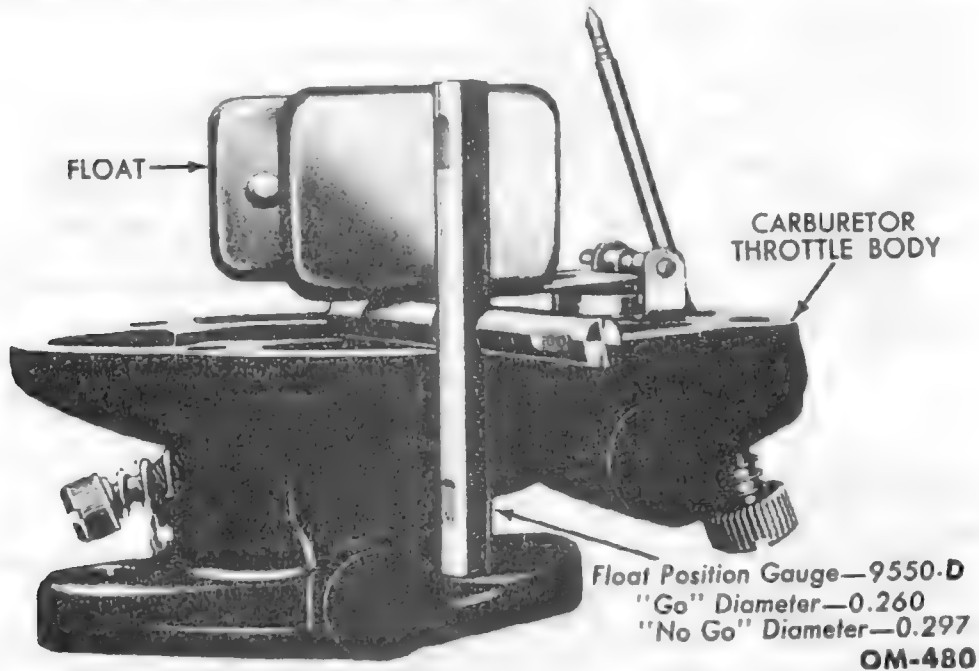

Fig. 49—Correct Position for Float Level
c. Float Adjustment. Bend the float lever until the float is positioned as shown in fig. 49.